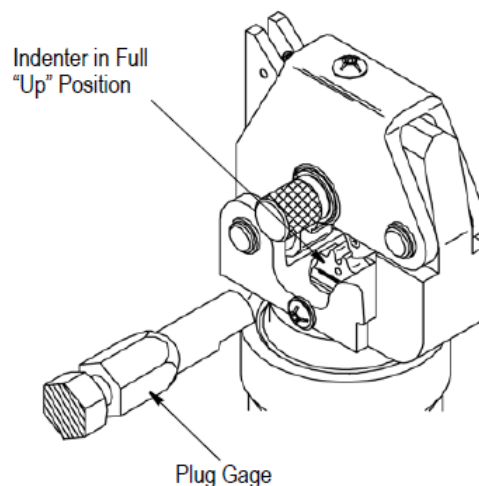

Figure 8
2. Lock the desired nest in the crimp position and raise the indenter to the full "UP" position, as shown in Figure 8.